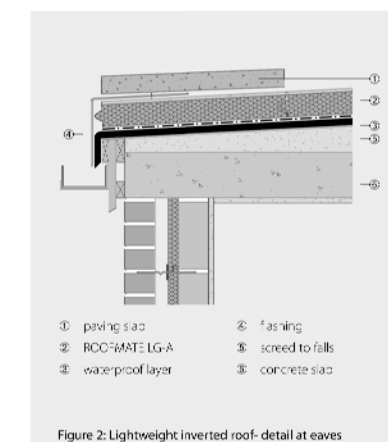

Figure 2: Lightweight inverted roof- detail at eaves
- ▶▶▶ **parapets and roof kerbs:** at roof perimeters ROOFMATE LG-A boards must be protected from wind blowing directly underneath the boards: kerbs should extend at least 50mm above the top of the boards. On-roofs with low wind exposure ROOFMATE LG-A boards may be laid to drain directly into an edge gutter. Protect the board edge with a cover flashing (Figure 2)